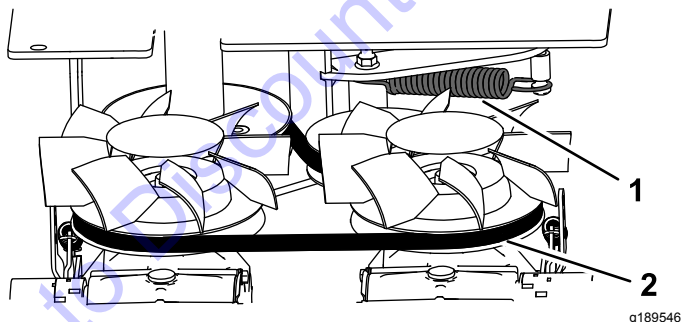

Figure 40
4. Inspect the belt (Figure 40). Replace the belt if it is worn; refer to Replacing the Drive Belt (page 31).
6. Remove the extension spring (Figure 40).
11. Install the extension spring (Figure 40).